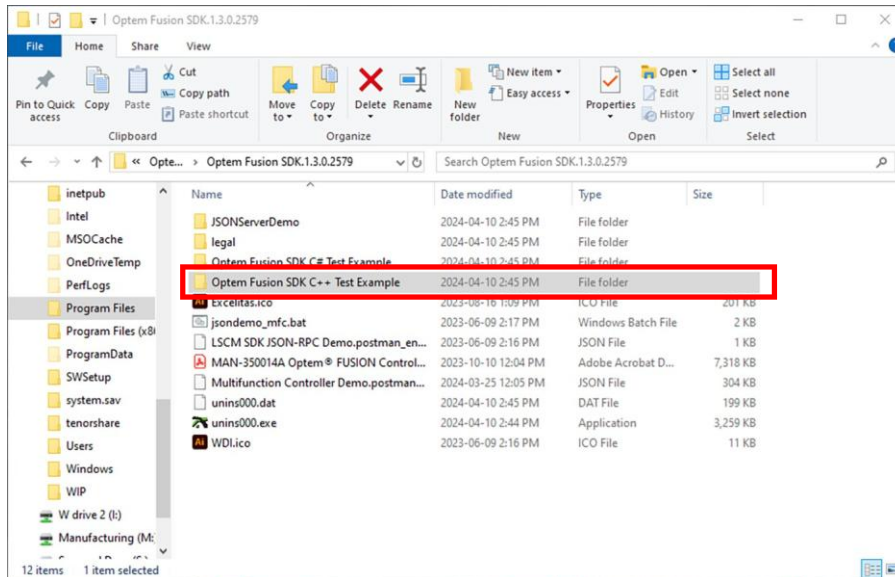

Figure 52 C++ Test Example Folder Location
1. Locate the C++ test example folder (outlined in red in Figure 52), in the **C:\Program Files\WdiDevice\Optem Fusion\Optem Fusion SDK. x.x.x.xxxx \Optem Fusion SDK C++ Test Example** folder.